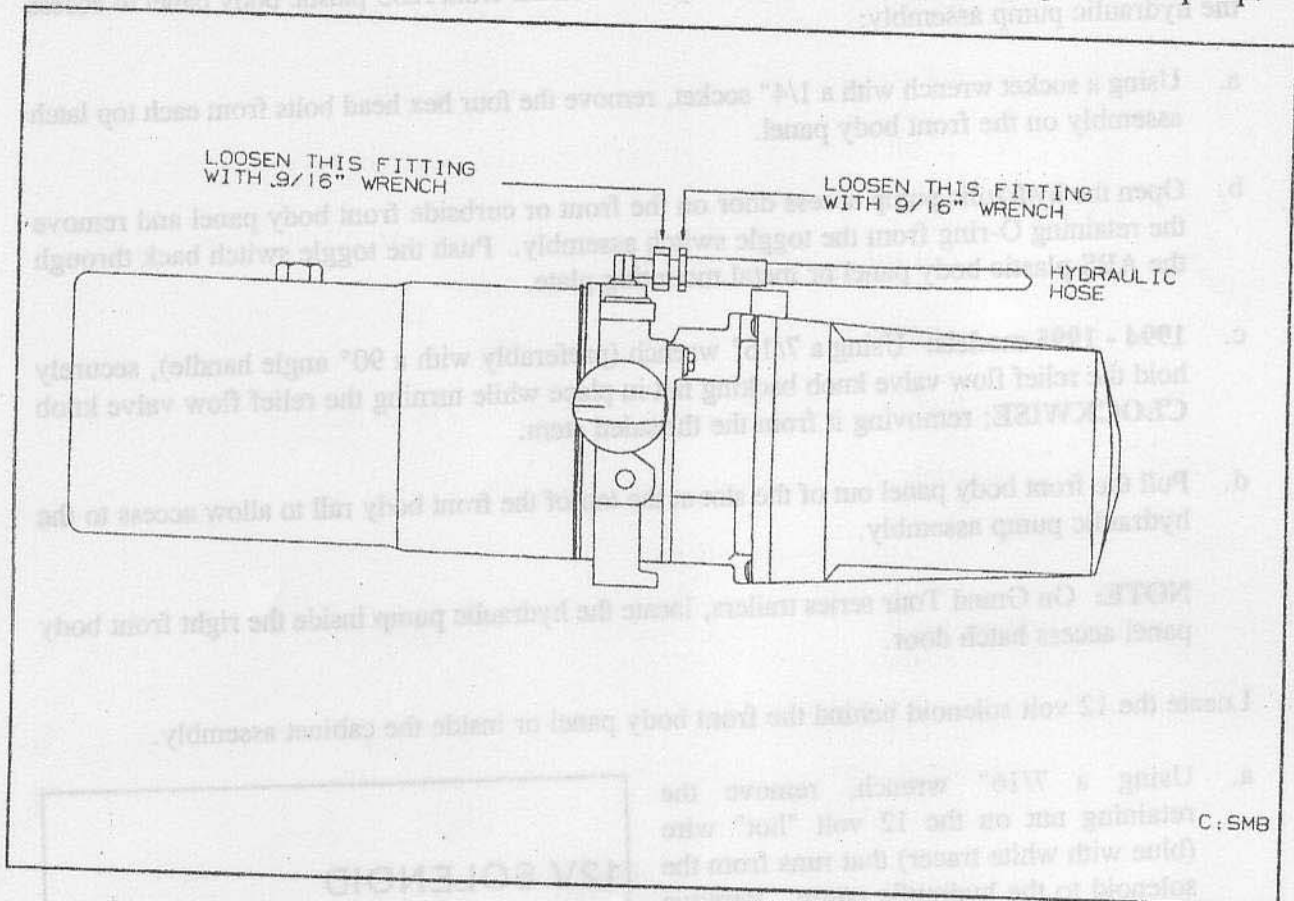

FIGURE 2
- Using two 9/16" wrenches, remove the hydraulic hose from the 90° fitting on the hydraulic pump assembly. See figure 2.